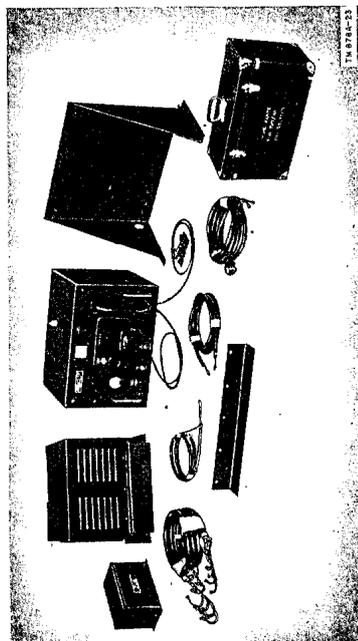

Figure 15. Components of Radio Transmitter T-83/SR.
a. Radio Transmitter T-83/SR is a 50-watt telephone and telegraph marine radio transmitter. Either c-w or phone transmission is available on any of five preset channels in the frequency range between 1,700 and 8,700 kc. Three separate units house the entire transmitter installation (fig. 15). Provisions are made for remote control operation of the radio transmitter.